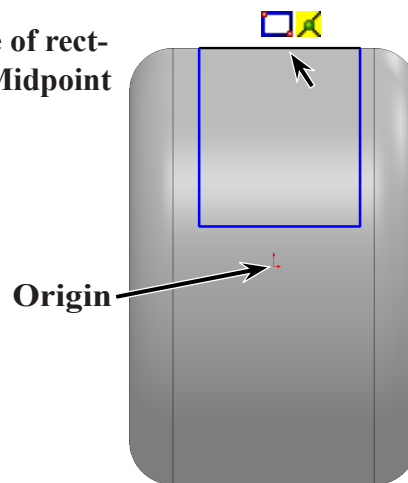

Fig. 11
Step 6. **Right click bottom line of rectangle** and click **Select Midpoint** from menu, Fig. 11.